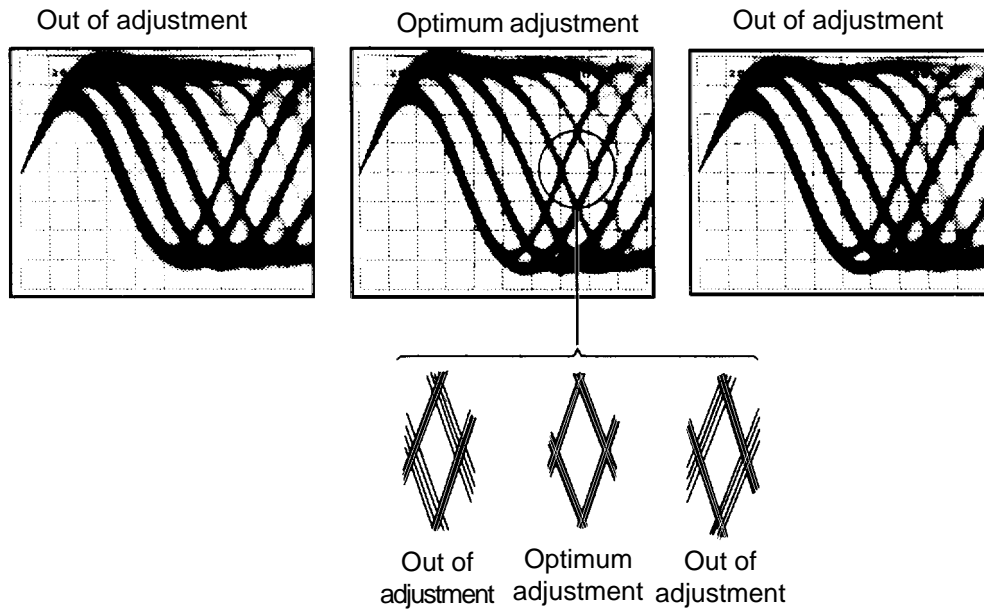

Fig. 17
- (1) Move the pickup to the position where the radial/tangential adjustment screws will be seen with the MANUAL / TRACK SEARCH FWD or REV keys so that the radial/tangential adjustment screws can be adjusted.
- (2) Press the FINALIZE key, the PLAY key and the PAUSE key in the order to close the respective servos and put the player into play mode.
- (3) First, adjust the radial adjustment screw with the hexagonal screwdriver (1.27 mm) so that the eye pattern (the diamond shape at the center of the RF signal) can be seen the most clearly and the amplitude is at maximum..
- (4) Next, adjust the tangential adjustment screw with the hexagonal screwdriver so that the eye pattern can be seen the most clearly. (Fig. 17).
- (5) Adjust in the order of the radial adjustment screw and the tangential screw again, so that the eye pattern can be seen the most clearly. As necessary, adjust the two screws alternately so that the eye pattern can be seen the most clearly.